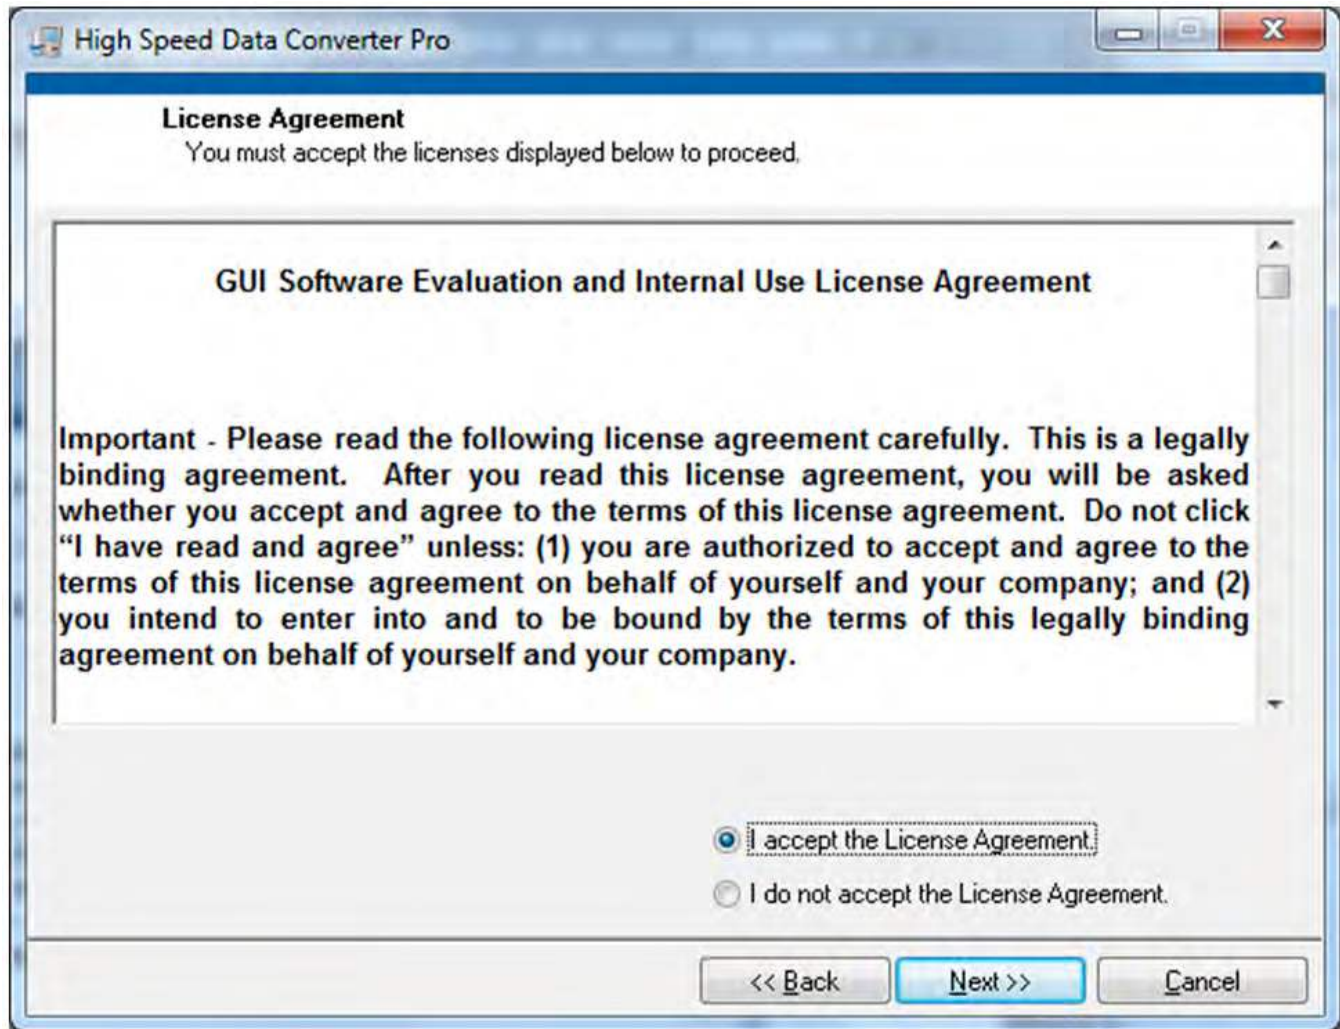

Figure 29. HSDCPro Install (TI License Agreement)
- Read the License Agreement from Texas Instruments and select *I accept the License Agreement* and press the *Next* button as shown in Figure 29.